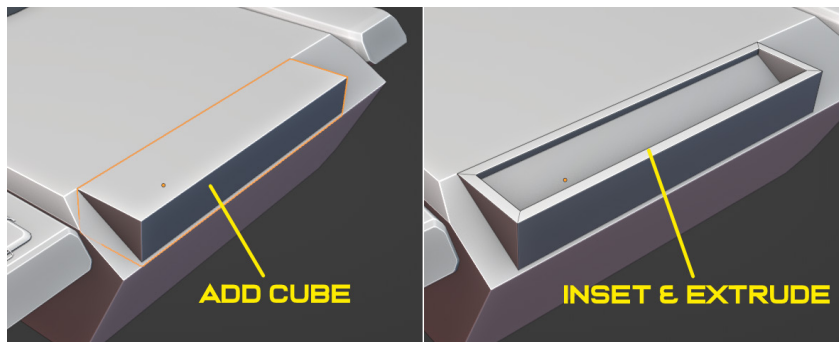

Figure 8.46 – Creating grills
1. Create a simple frame at the far end of the tank and add details to it, as shown in *Figure 8.46*.